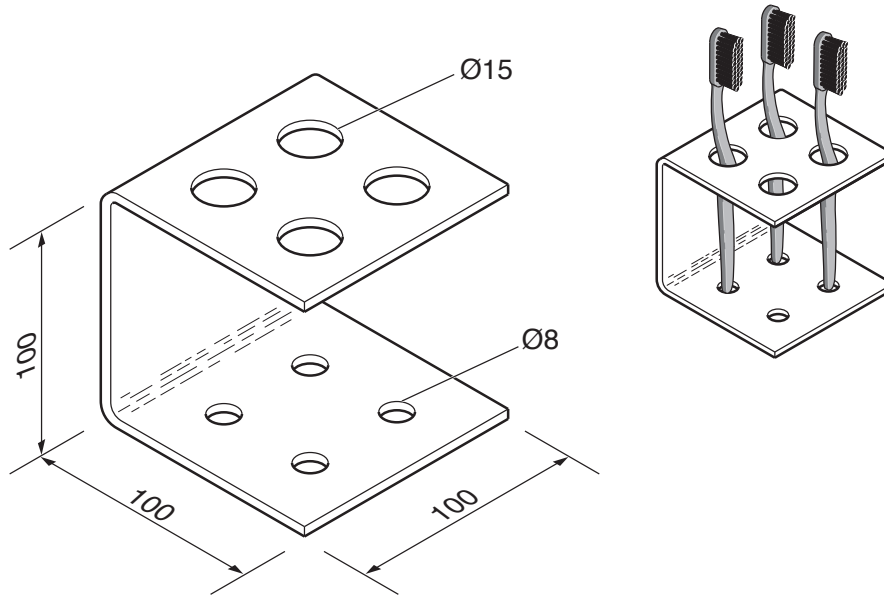

Fig. 17
12 Fig. 17 shows a basic design for a toothbrush holder made from 4 mm thick acrylic.
- (f) Use sketches and notes to show a modification to the design of the toothbrush holder shown in Fig. 17 so that the tube of toothpaste shown below could be stored.